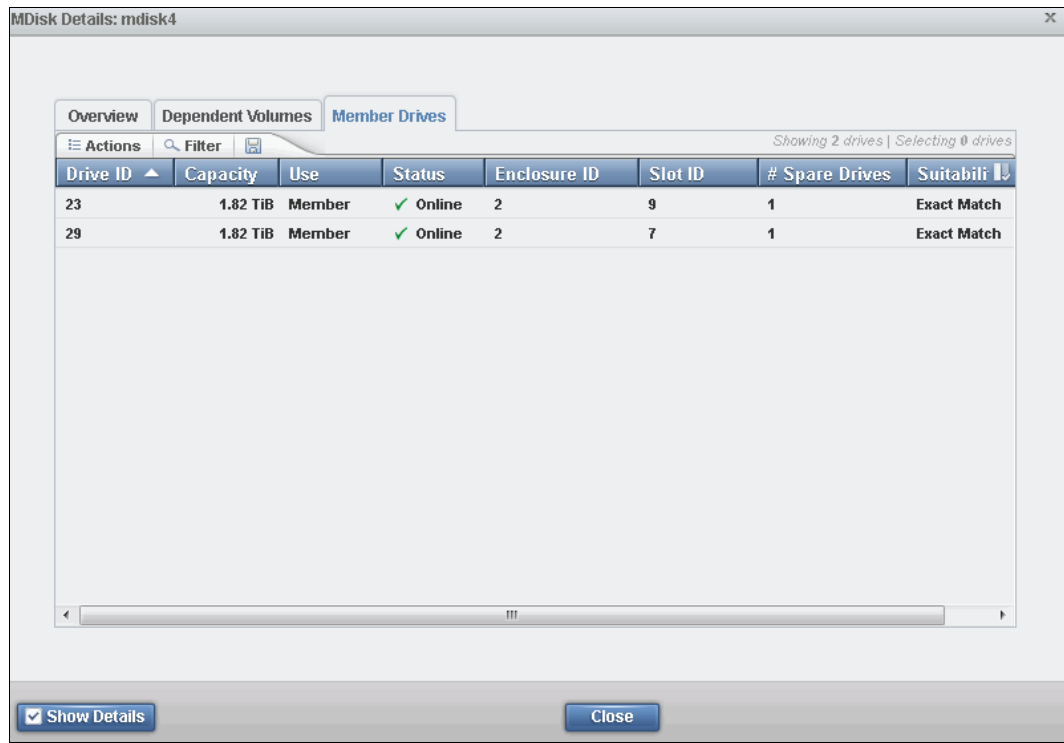

Figure 7-56 MDisk properties member
- iii. In the Member Drives tab (as shown in Figure 7-56), you find all of the member drives of this MDisk. Also, all of the actions that are described in 7.1.2, “Actions on internal drives” on page 311, can be performed on the drives that are listed here.